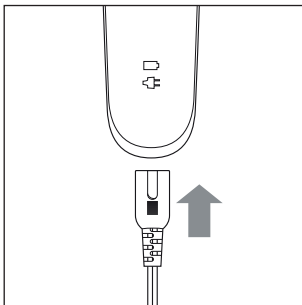

Fig. 1
- 2) Connect the barrel plug  9 of the mains adapter  8 to the appliance (see fig. 1).
- 2) Connect the barrel plug **9** of the mains adapter **8** to the appliance (see fig. 1).